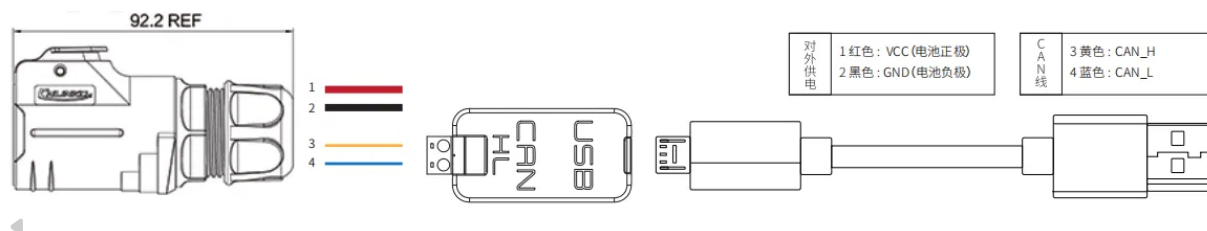

Figure 3.4 CAN cable connection schematic
- Connect CAN_TO_USB to laptop USB port. Connection schematic is shown in Figure 3.4.